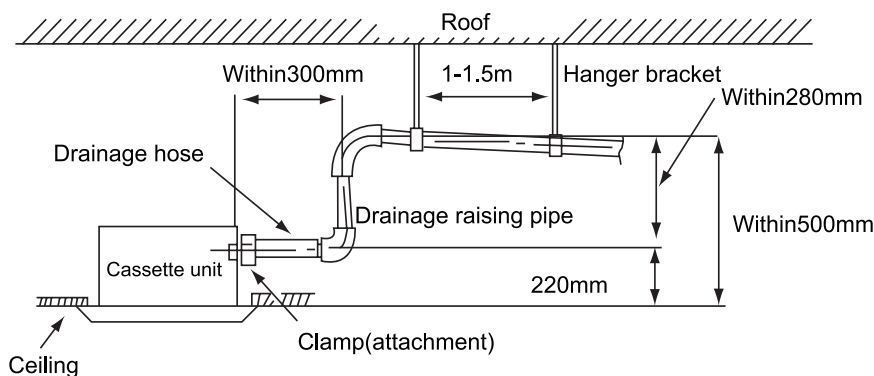

Figure 1-3-10
- The slant gradient of the attached drain hose should be within 75mm so that the drain hole doesn't has to endure the unnecessary outside force. (As shown in Figure 1-3-10)